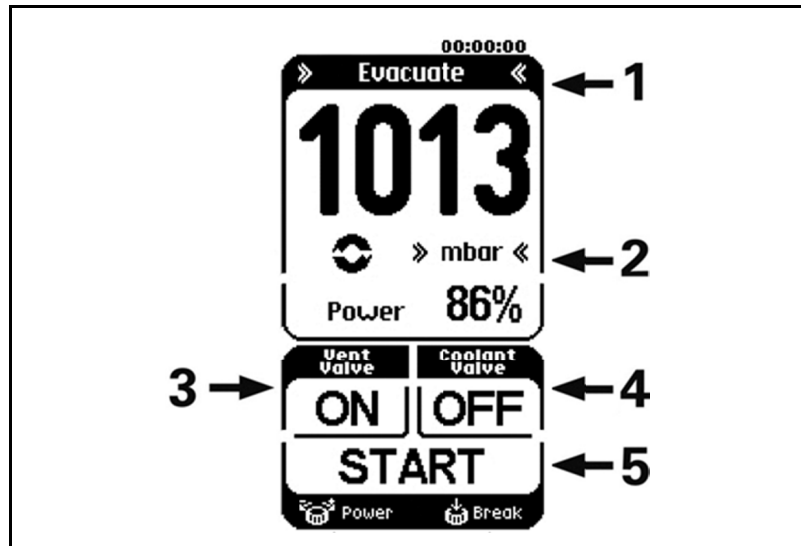

Fig. 5: Menus and buttons on touchscreen
- Menus for selecting the operating mode and units for pressure display (Fig. 5, page 20);
- Operating keys (Fig. 5, page 20) with the functions:
Press and hold the *ON* button (Fig. 5/3, p. 20) to open the ventilation valve.
Press the *ON* button (Fig. 5/4, p. 20) to open the coolant valve.
Press the *OFF* button (Fig. 5/4, p. 20) to close the coolant valve again.